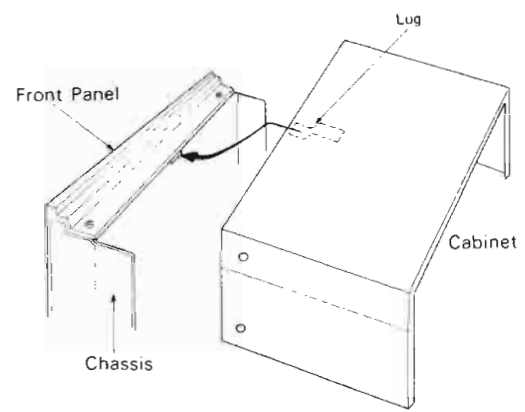

Fig. 7
- When the cabinet is installed, insert the lug of cabinet into the space between the front panel and chassis as shown in fig. 7.